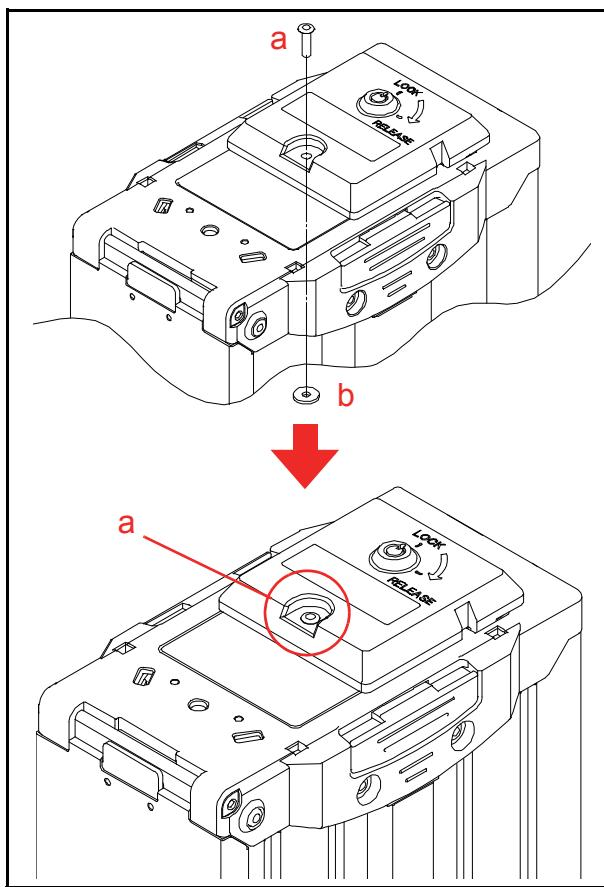

Figure 16 Frame Lock Installation 5
6. Retain the Frame Lock assembly to the Cash Box by the single (1) Blind Revet (Figure 16 a) with the $\phi 10$ Washer (Figure 16 b).